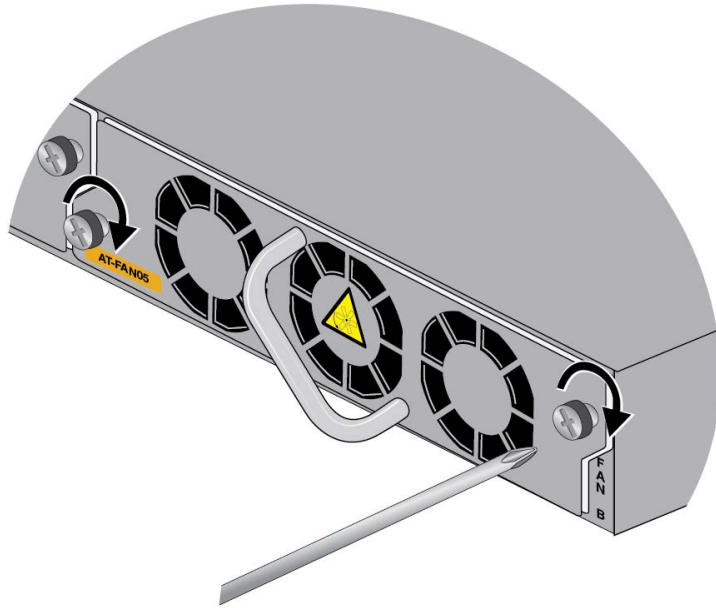

Figure 160. Tightening the Two Captive Screws on the FAN05 Module
4. Tighten the two screws on the module to secure it to the switch. Refer to Figure 160.